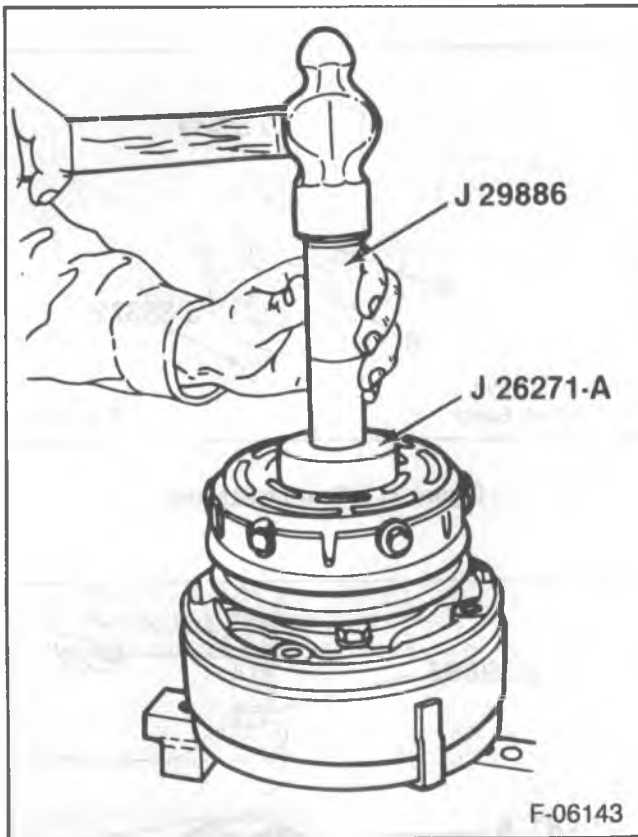

Figure 28—Installing the Rotor and Bearing Assembly — V-Groove Type
Install or Connect (Figures 28 and 29)
1. The coil, pulley rim and the rotor and bearing assembly (figure 28).
Install or Connect (Figures 28 and 34)
3. Rotor and bearing assembly using J 26271-A (figure 28).